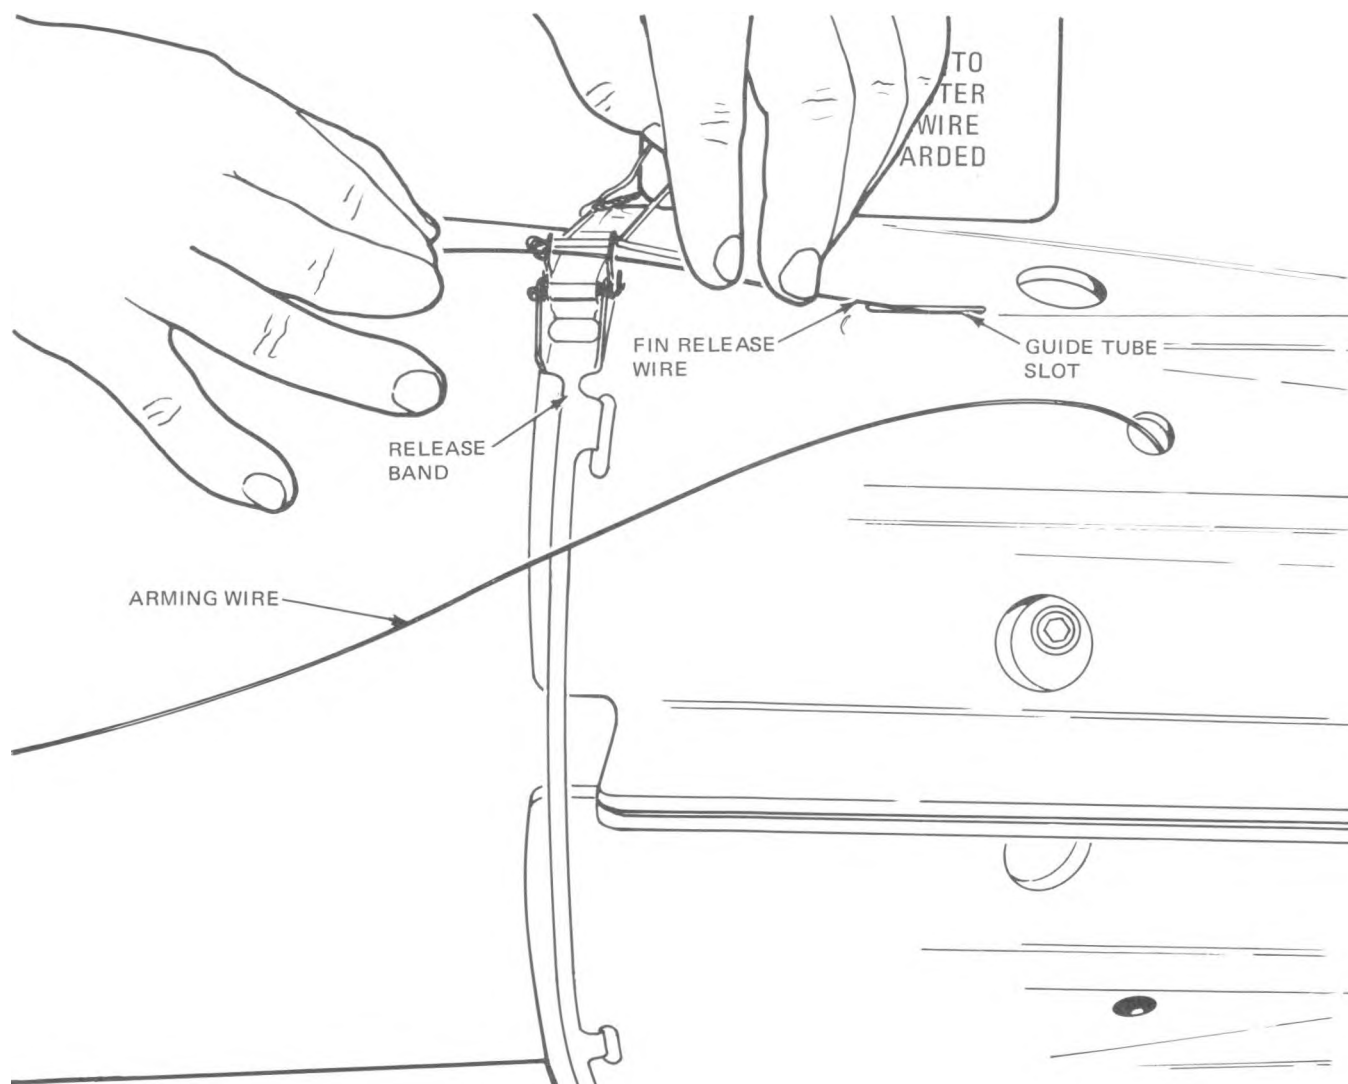

Figure 3-42. Fin Release Wire Routing — Mod 3 and Mod 4 Fins
15. Install fin release wire (0.064 inch diameter) through release band and into slot in top fin blade (figure 3-42). Feed wire into slot in fin blade until it emerges from aft end of fin. Disregard all WARNING decals on fin concerning Fahnestock clips.
7. Install fin release wire (0.064 inch diameter) through release band and into slot in top fin blade (figure 3-42). Feed wire into slot in fin blade until it emerges from aft end of fin. Disregard all WARNING decals on fin concerning Fahnestock clips.